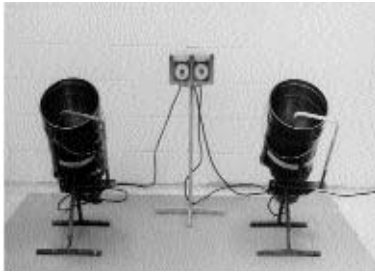

FIGURE 1
1. Position the two JB Power Blenders side by side with the Blender Timer between them (Figure 1).